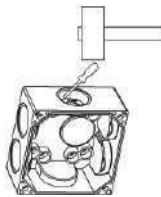

Figure 2
3. Remove the necessary knock outs for 1 x for power supply and 1 each for up to 5 separate loads (refer to figures 2 & 3)